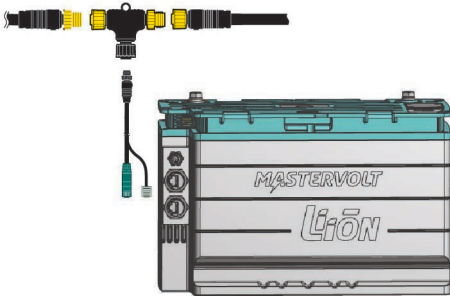

Figure 6: CZone drop cable
- CZone: connect the drop cable. On the battery side, plug the connectors into either of the communication ports. See Figure 6 on page 16.